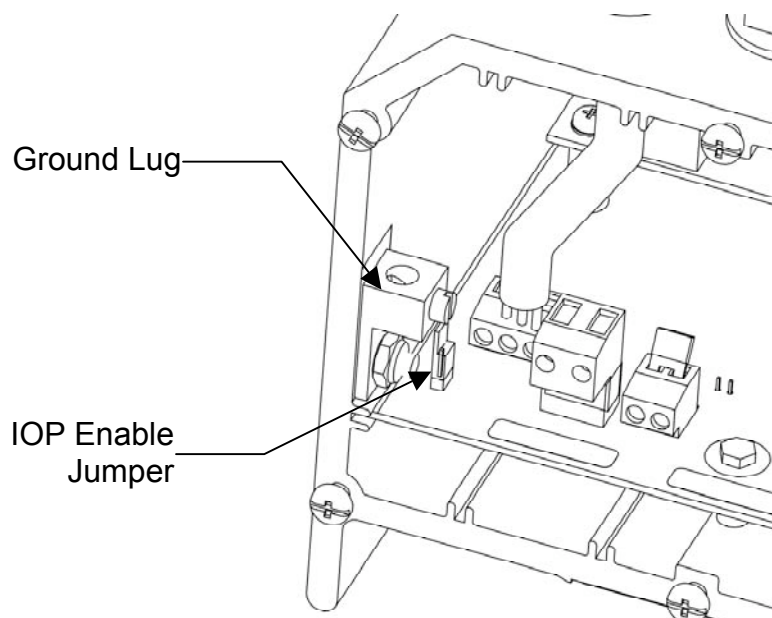

Figure 14—IOP Enable Jumper Location
2. . . Locate the “IOP Enable” jumper inside the IOP unit. The IOP enable jumper is located near the ground lug (see Figure 14).